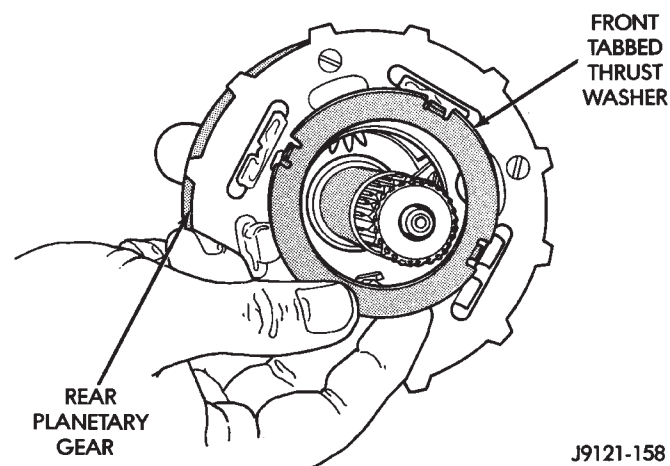

Fig. 72 Installing Rear Planetary Front Thrust Washer
(6) Install front thrust washer on rear planetary gear (Fig. 72). Use enough petroleum jelly to hold washer on gear.